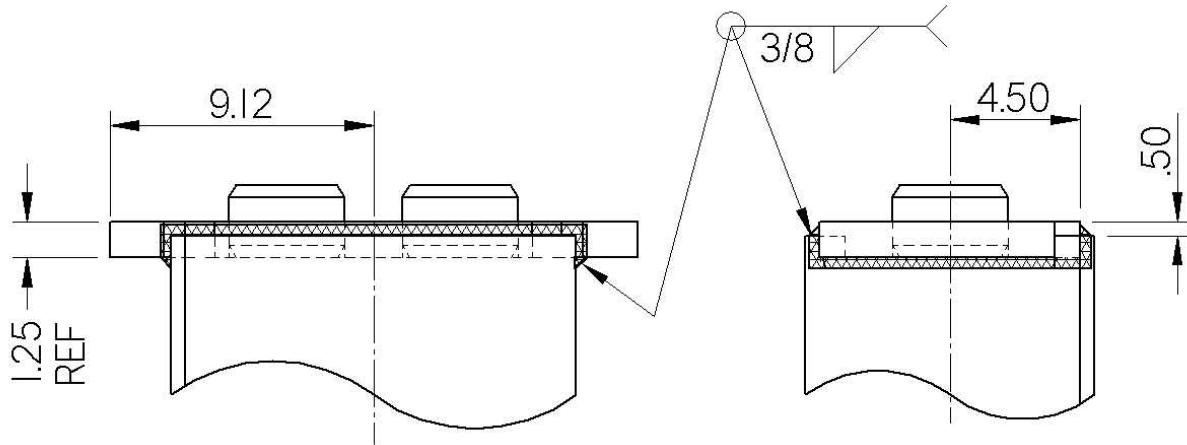

Figure 8: Welding of Top Mount Plate to Long Outer Tube
- h) Once the plate is positioned correctly, weld a 3/8" fillet weld all around the top of the cylinder top mount plate as shown in figure 8, using Low Hydrogen E7018 – 1/8" welding rods.
- j) Place the top mount plate that was ground smooth in step b in the notch on top of the outer tube. Ensure that the plate is perpendicular to the sides of the outer tube, level if necessary. Use E7018-1/8" welding rods to make a 3/8" fillet weld all around the top mount plate as shown in figure 8. Allow the outer tube and top mount plate assembly to cool slowly.